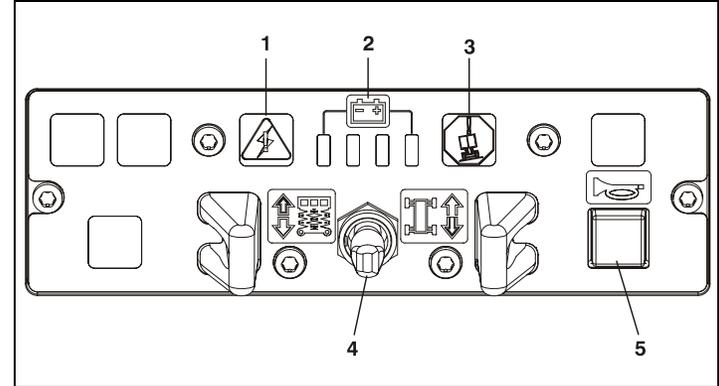

Figure 3-8. Platform Control/Indicator Panel
Drive - The drive and lift switch (*item 4 on the Platform Control/Indicator panel - Figure 3-8.*) must be selected prior to moving the control handle. After selecting the drive function, engage the trigger switch lever, then move the control handle forward to drive the machine forward or move the control handle backwards to drive the machine backward.